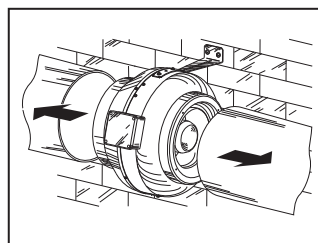

Fig. 22
2. Remove the air ducts from the fan, fig. 22;